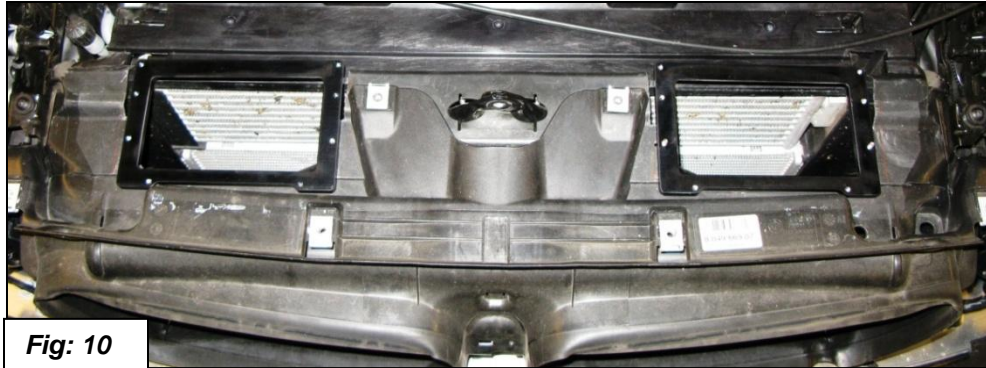

Fig: 10
- The Air Filter Frames mount on top of the shroud in front of the radiator. You will cut two holes and mount the frames to the shroud. The Dinan carbon fiber snorkels screw to these frames. See figure 10.